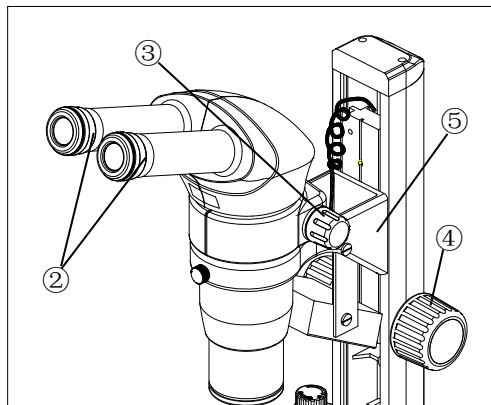
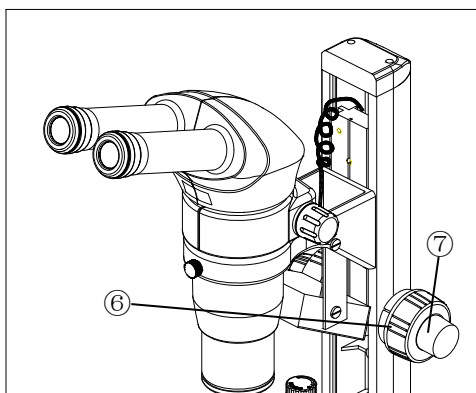

Fig.11
Fig.12
#### 3.1.2 Adjusting diopter ring (Fig.11, Fig.12)
3. Rotate the zoom body knob ③ to the highest magnification  $5\times$  (or  $6.4\times$ , or  $10\times$ ), and turn the focusing knob ④ to focus the specimen.
4. Rotate the zoom body knob ③ to the lowest magnification  $0.8\times$ , looking only into the left eyepiece, adjust the diopter ring on left eyepiece to focus the specimen. Then do the same thing for the right one.
5. Repeat item 3 and 4 until the specimen image can always focus without any adverse effect of the changes of magnification on the definition of the image.
**Fig.11 shows the focusing part of Stereo Microscope BS-3060A, BS-3060B;**
**Fig.12 shows the focusing part of Stereo Microscope BS-3060C. There are coarse focusing knob ⑥ and fine focusing knob ⑦ in this kind of microscope.**
When  $2\times$  objective is chosen, it is necessary to mount the binocular head bracket ⑤ onto the lower position. Remove the clamping bolt with provided hexagonal driver and move the bracket down to the lower position and set it with original bolt (Fig.11).